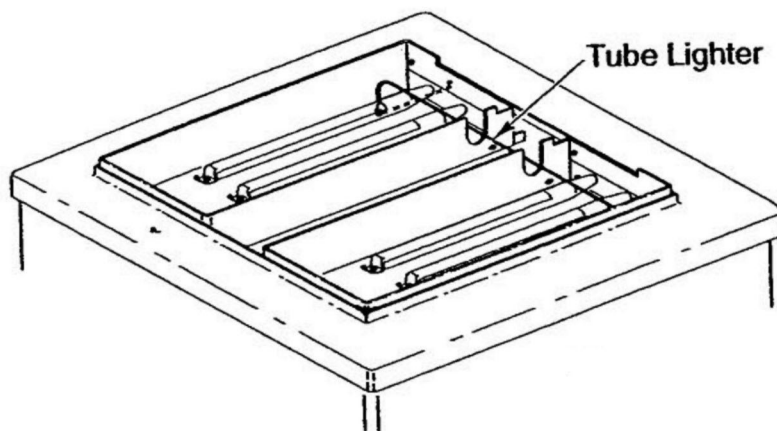

FIGURE 3
4. Visually ensure tube lighter ports (Figure 3) are unobstructed.